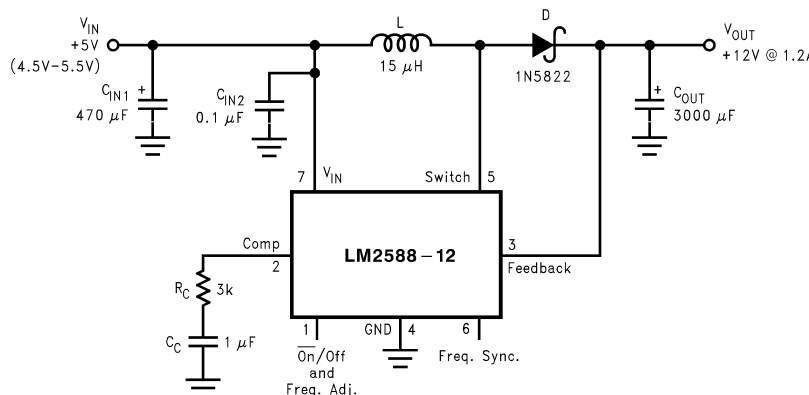

Figure 17. 12-V Boost Regulator
Figure 17 shows the LM2588 used as a step-up (boost) regulator. This is a switching regulator that produces an output voltage greater than the input supply voltage.
A brief explanation of how the LM2588 boost regulator works is as follows (refer to Figure 17). When the NPN switch turns on, the inductor current ramps up at the rate of V_{IN}/L , storing energy in the inductor. When the switch turns off, the lower end of the inductor flies above V_{IN} , discharging its current through diode (D) into the output capacitor (C_{OUT}) at a rate of $(V_{OUT} - V_{IN})/L$. Thus, energy stored in the inductor during the switch on-time is transferred to the output during the switch off time. The output voltage is controlled by adjusting the peak switch current, as described in the section.
By adding a small number of external components (as shown in Figure 17), the LM2588 can be used to produce a regulated output voltage that is greater than the applied input voltage. The switching waveforms observed during the operation of this circuit are shown in . Typical performance of this regulator is shown in .